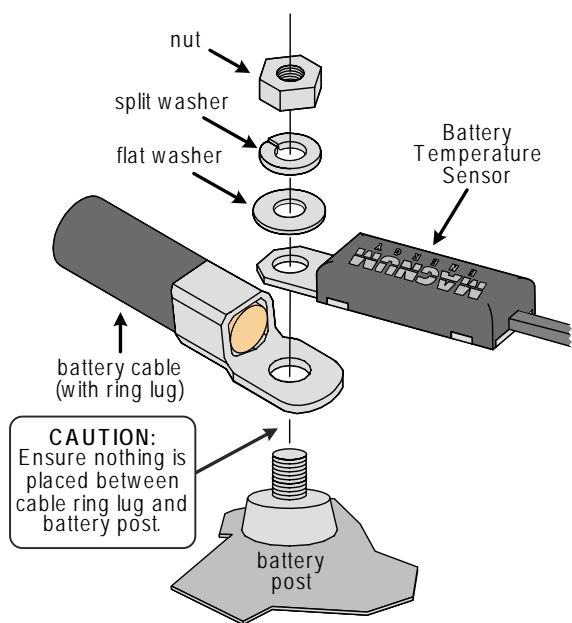

Figure 2-5, Battery Hardware Installation
Follow figures 2-5 and 2-6 on how to connect the DC cables and stack the hardware correctly. Tighten the terminal connections from 10 to 12 ft lbf (13.6 to 16.3 N-m).
1. Attach the ring terminal end of the Battery Temperature Sensor to the negative battery terminal; see figure 2-5 for proper connection to the battery terminal.
Ensure the DC wire connections (on the batteries, inverter and DC circuit breaker/fuse lugs) are flush on the surface of the DC terminal's and the hardware (lock washer and nut) used to hold these connections are stacked correctly (see figures 2-5 and 2-6). Verify all DC connections are torqued from 10 to 12 ft lbf (13.6 to 16.3 N-m).